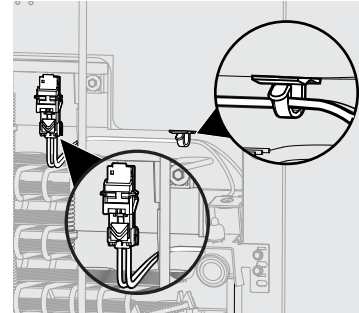

Figure 13
16. Plug the connector on the water valve wire harness into the connector above the condenser coil. You will hear a click when it is fully seated in place. Install the water valve clip at the bottom right side of the unit, and route and attach the water valve harness into the clip. See Figure 13.